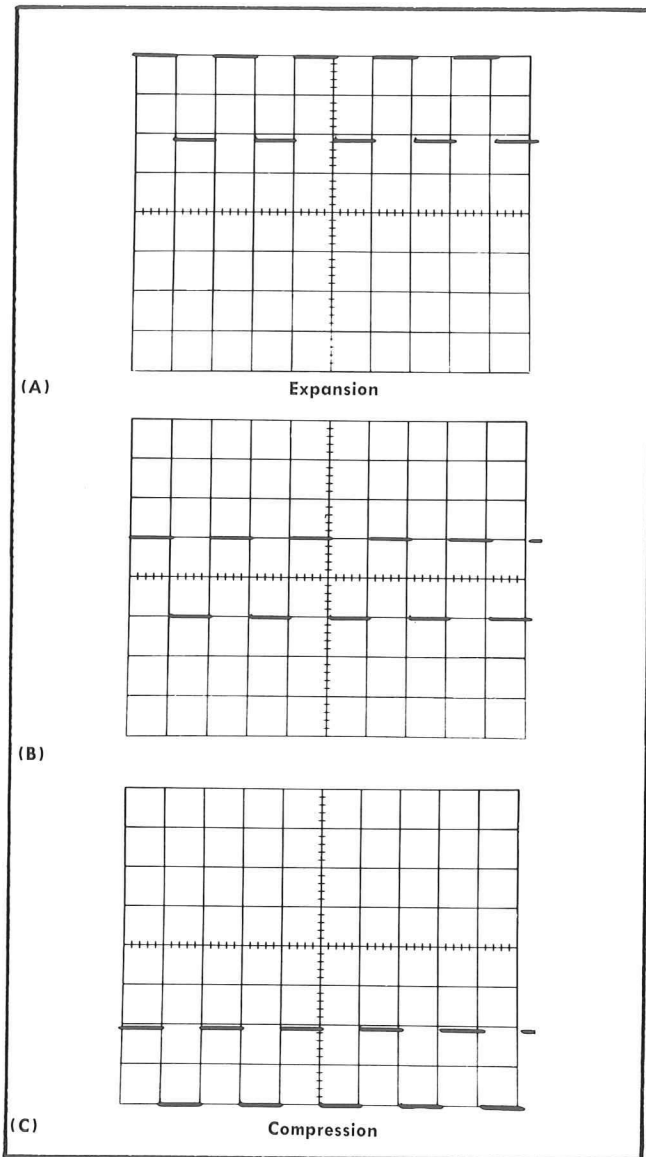

Fig. 5-16. Typical CRT display showing acceptable compression and expansion. (A) Expansion, (B) correct deflection at center of graticule, (C) expansion.
- e. CHECK—Compression or expansion not to exceed 0.15 division (see Fig. 5-16).
- g. CHECK—Compression or expansion not to exceed 0.15 division (see Fig. 5-16).
- l. CHECK—Compression or expansion not to exceed 0.15 division (see Fig. 5-16).
- n. CHECK—Compression or expansion not to exceed 0.15 division (see Fig. 5-16).